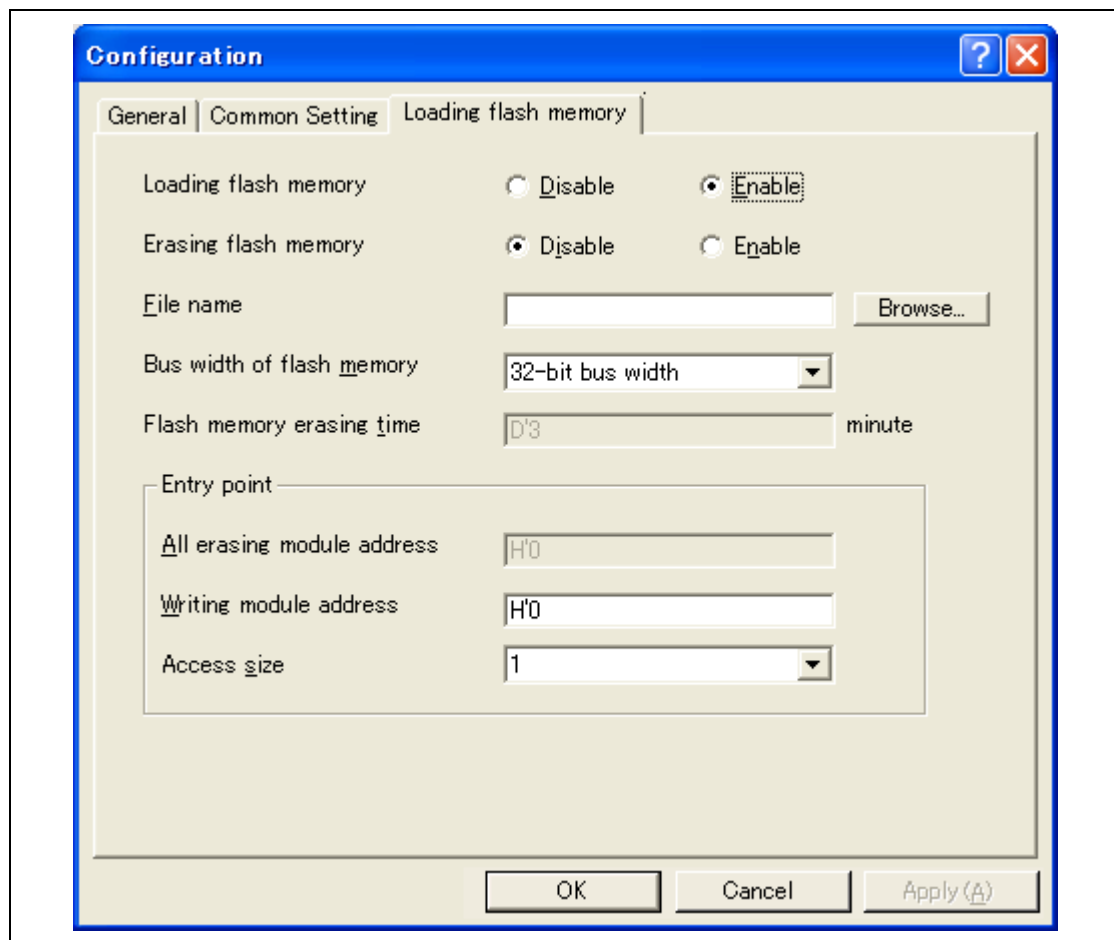

Figure 7.51 [Loading flash memory] Page
2. This function is not available depending on the MCU. For such an MCU, the [Loading flash memory] page shown in figure 7.51 will not be displayed.